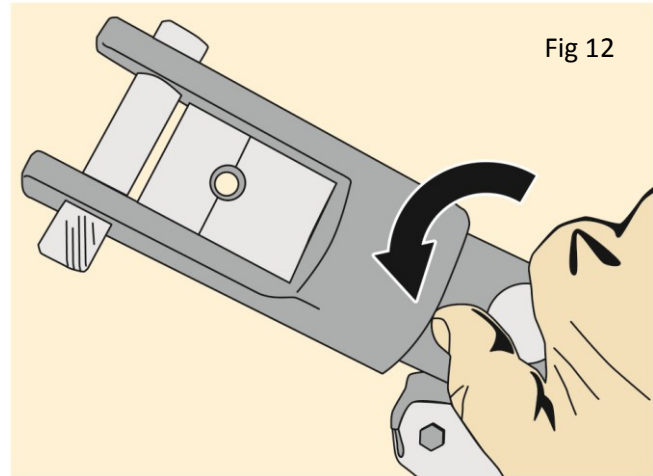

Fig 12
- a) Turn the knob on the Cable Crimper counterclockwise to open the jaws and position the fitting 1/8" from the end of the fitting (Fig. 12).